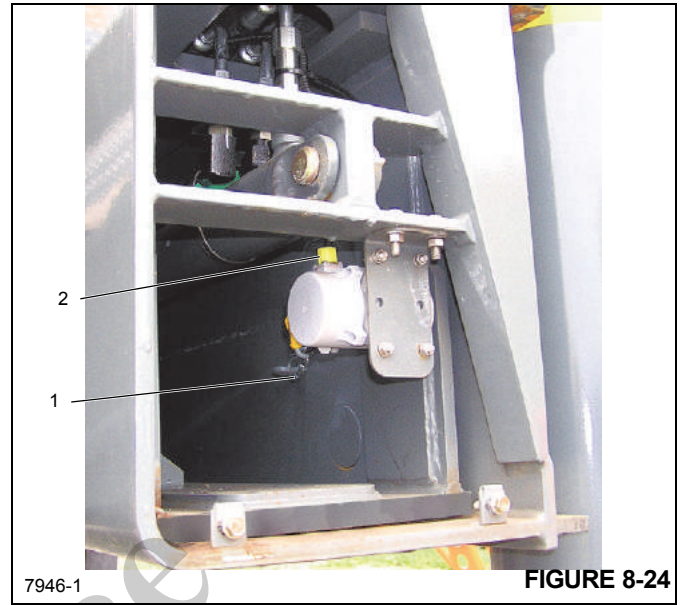

FIGURE 8-24
2. Remove the OMS string potentiometer connector (1, (Figure 8-24)) from the attaching point on the outrigger beam.
3. Disconnect electrical harness connector (2) and secure to avoid damage.
2. Install the OMS string potentiometer enough to engage slotted hole with top mounting hardware ((Figure 8-24)).